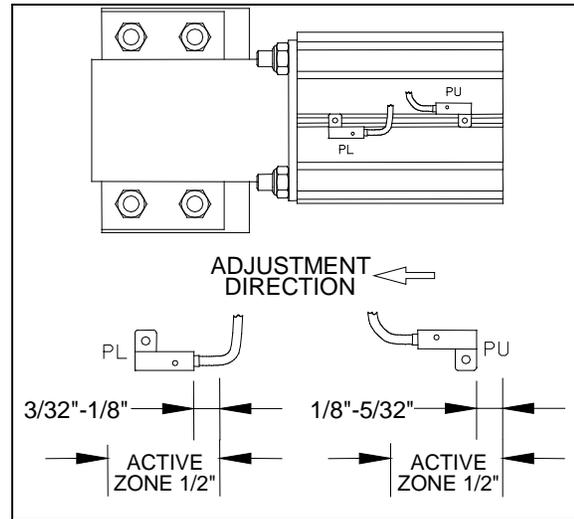

FIGURE 13 : SENSOR SWITCH ADJUSTMENT
2. Slide the pin locked sensor (PL) in the air cylinder groove (figure 13 and figure 52).
5. Slide the pin unlocked sensor (PU) in the air cylinder groove.
6. Place the PU sensor in the zone where it is activated. Move slowly the sensor toward the backside of the cylinder until it is deactivated. Bring back slowly the sensor (adjustment direction) and when it is activated again, continue to move it on 1/8" to 5/32". Tighten the sensor screw (figure 13).
Note: It is important to adjust the sensor following the adjustment direction figure 13).